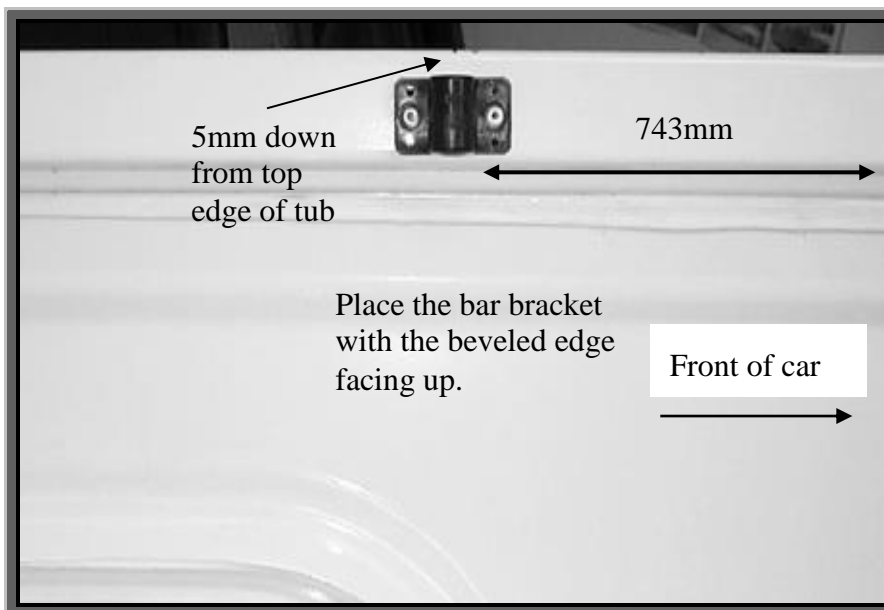

Figure 2
- STEP 7** To fit the bar brackets, measure 743mm back from the inside front edge at the top of the tub and place them as shown in Figure 2. (5mm down from top edge of tub) Drill and rivet using two large rivets for each Bar Bracket. Install the support bar according to the supplied instructions.